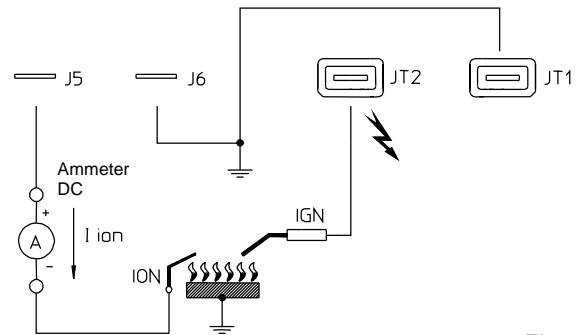

Fig.5
- the level of the flame signal is sufficient, see Fig.5 for the measuring test;